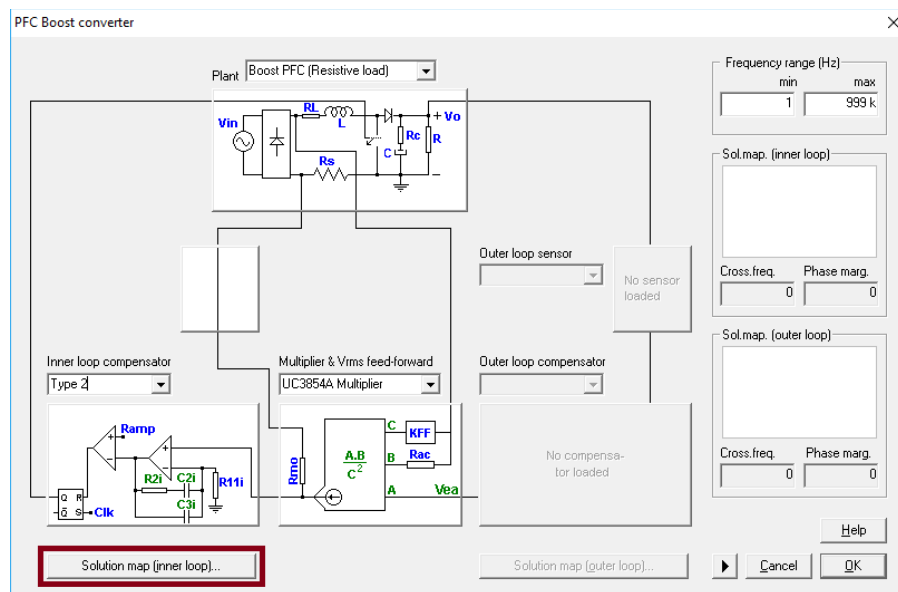
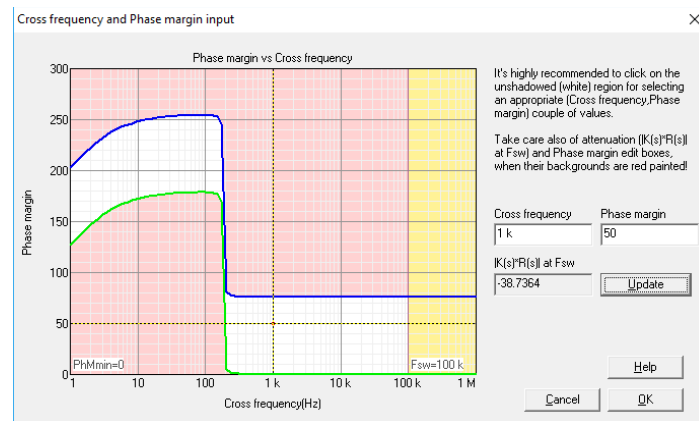

Figure 11: Inner loop solution map accessing button
Figure 12: inner loop solution map
3. Select the crossover frequency and the phase margin with the help of the solution map. See Figure 11 and Figure 12.
SmartCtrl provides a guideline and an easy way of selecting the crossover frequency and the phase margin through the Solution Map. See Figure 12.